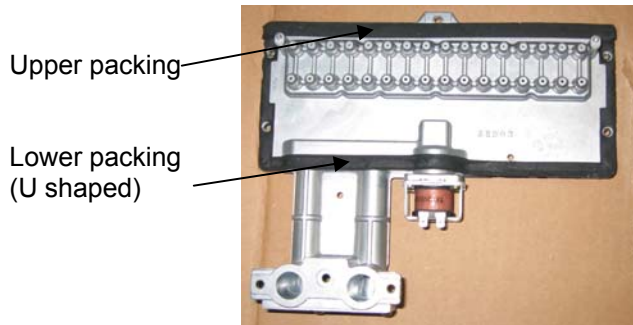

Figure 4
13. Remove old packing from gas manifold. Install the gas manifold using 2 new packings (included in kit) between the manifold and the heat exchanger. (Figure 4).